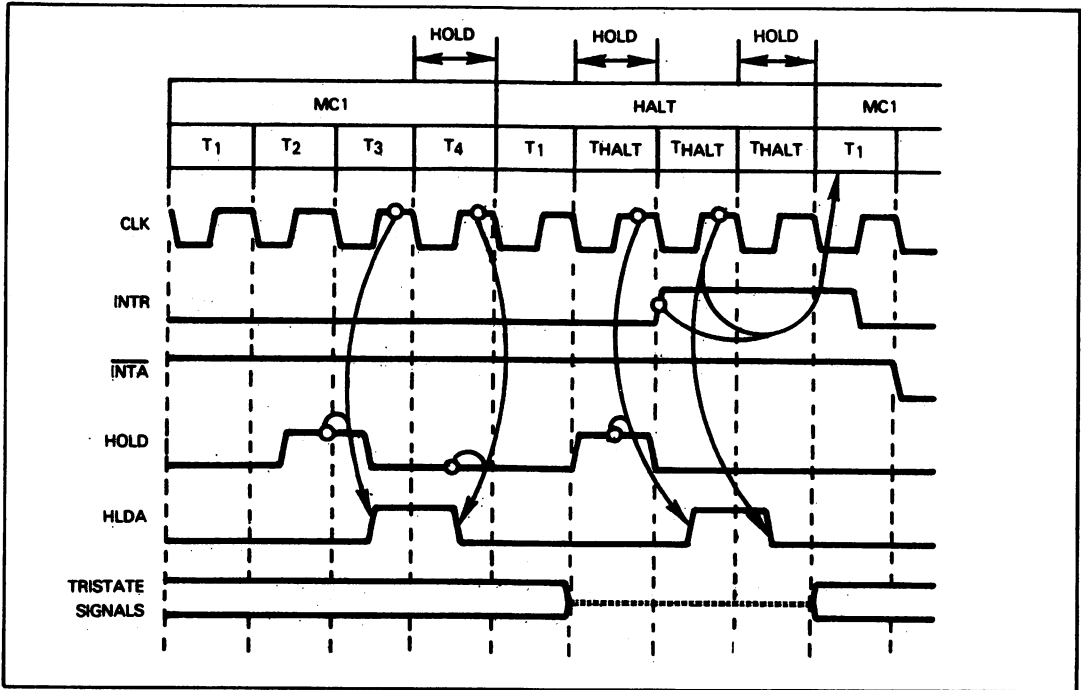

Figure 5-15. Hold States Occurring Within a Halt State
**While in a Halt state you can enter and exit the Hold state. Figure 5-15 illustrates timing for the Hold state existing within the Halt state.** Notice that the Hold state only lasts for as long as the HOLD input is kept high.